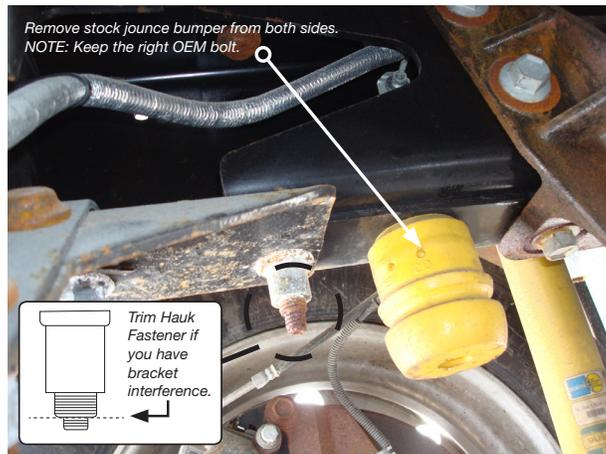

fig. 5
1. Before the assemblies can be installed, it will be necessary to remove the jounce bumpers from under the frame (Fig. 5). Note: do not discard the right OEM bolt; it will be used in the next step on the right side of the vehicle.
4. If there is no hole in the frame for the upper bracket, position the lower bracket so that the back leg on the bracket is in between the shock mount and U-bolt (Fig. 8). Align the upper bracket so the air spring is perpendicular between the upper and lower bracket. Note: make sure that the flange on the upper bracket is setting against the frame. Some late models may have longer Hawk fasteners. If the fastener hits on the upper bracket and keeps it from contacting the frame (Figs. 5 & 9) hack saw or grind the end of the fastener just enough so that the upper bracket contacts the frame. Using the center of the slot in the upper bracket as a guide, center punch and drill a 1/2" hole through the frame. Repeat for the other side.